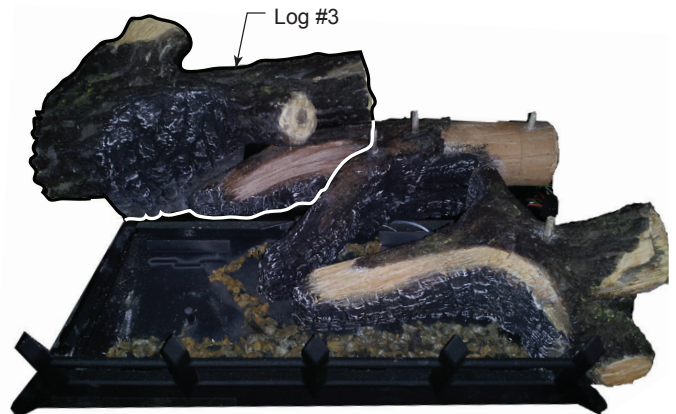

Figure 47
- Place bottom rear left log #3 on pin on left rear of grate assembly and push towards rear as far as possible. *Figure 47*